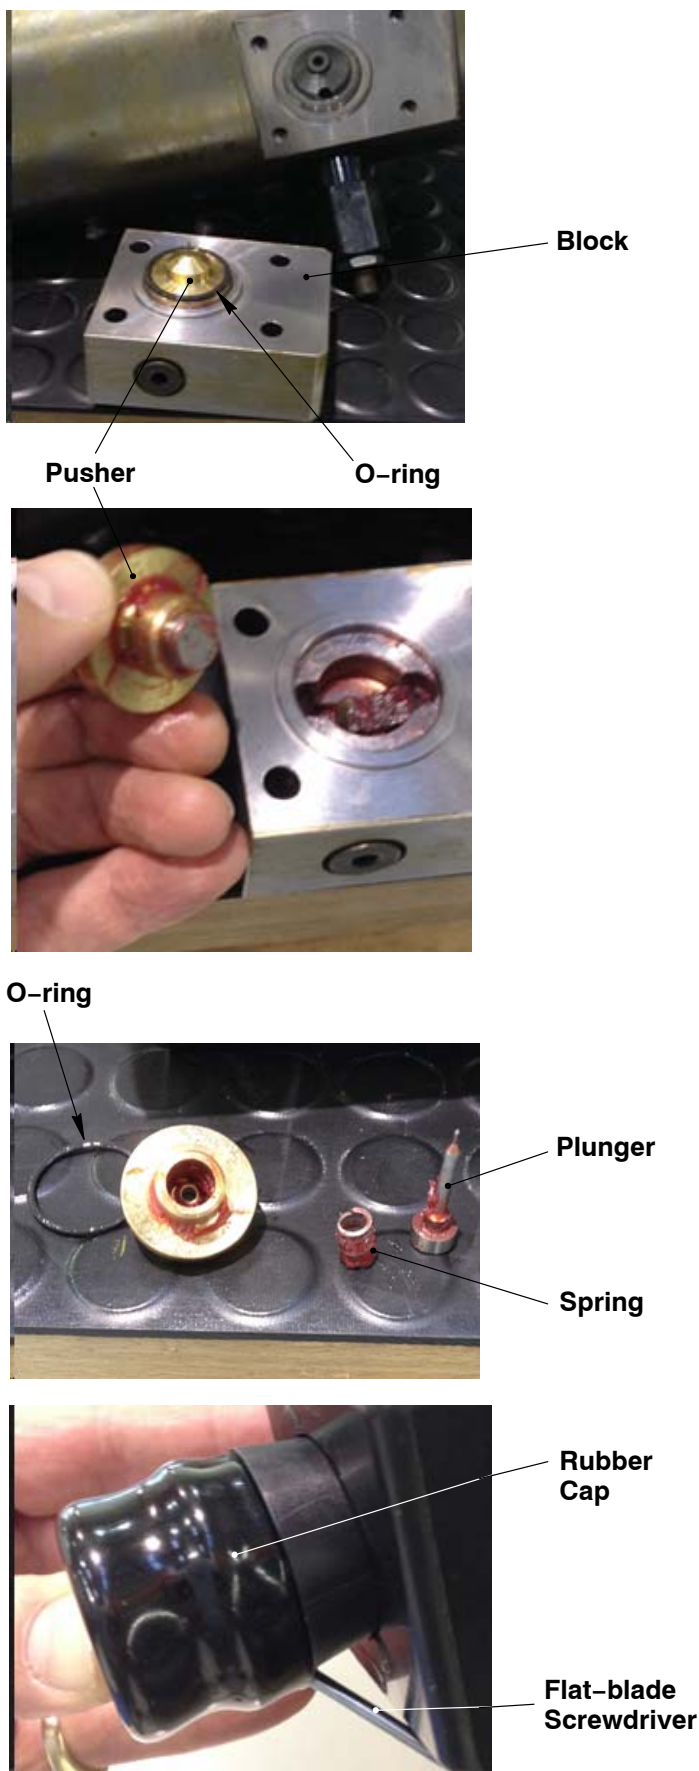

Fig. 3
11) Carefully remove the pusher (Fig. 3).
**Note: During step 9), hold in the pusher with your hand to help you attach the rubber cap (Fig. 3).**